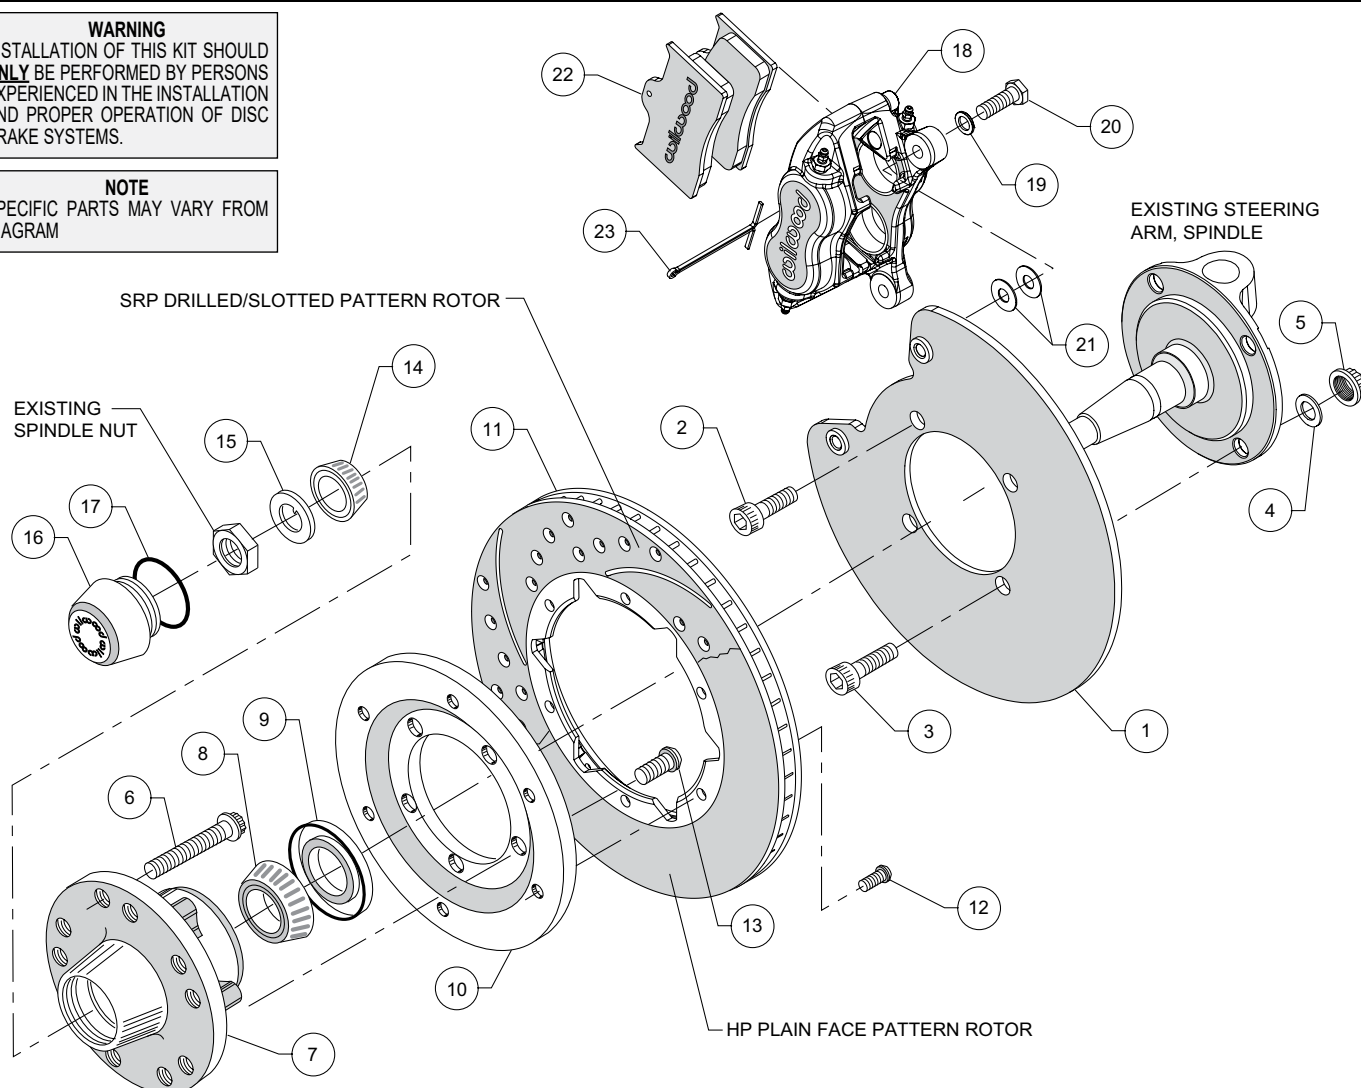
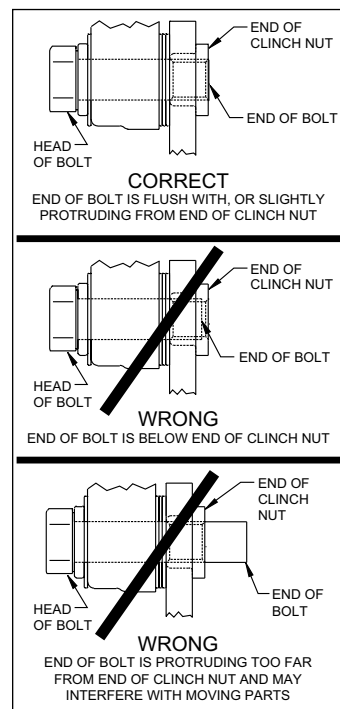

Figure 1. Typical Installation Configuration
Figure 3. Clinch Nut Engagement Diagram
NOTE: Numbers in parenthesis refer to the parts list and Figure 1 on the preceding pages.
CAUTION: All mounting bolts must fully engage clinch nuts. Be sure to check that all bolts are either flush or protruding through flanged side of clinch nut after shimming, Figure 3.
- Orient the caliper mount bracket (1) as shown in Figure 1. Install using bolts (2) threaded into the steering arm and bolts (3), washers (4), and locknuts (5), Figure 1. Ensure that the flanged heads of the clinch nuts in the bracket are facing outboard, Figure 1. Temporarily tighten the mounting bolts. **NOTE:** The bracket must fit squarely against the mounting points on the spindle. Inspect for interference from casting irregularities, machining ridges, burrs, etc. Torque locknuts (5) to 65 ft-lb. Apply red *Loctite*® 271 to the threads of bolts (2) and torque to 80 ft-lb.
- Install wheel studs (6) into the hub (7), Photo 2. Torque to 77 ft-lb. **NOTE:** There are two five lug patterns in the hub (5 x 4.50 and 5 x 4.75). Ensure the correct hub stud pattern is being used to fit the wheel application.
- Pack the large inner bearing cone (8) with high temperature disc brake bearing grease (available from your local auto parts store) and install into the backside of the hub (7), Photo 3.
- Install the grease seal (9) by pressing into the backside of the hub (7), flush with the end of the hub, Photo 3.
- Orient the rotor (11) and the rotor adapter (10) as shown in Figure 1 and Photo 4. Attach the rotor to the adapter using bolts (12). Using an alternating sequence, apply red *Loctite*® 271 to the threads, and torque to 25 ft-lb.
- Mount the adapter/rotor assembly (10/11) to the hub (7) using bolts (13), as shown in Figure 1 and Photo 5. Using an alternating sequence, apply red *Loctite*® 271 to the threads, and torque to 45 ft-lb.
- Pack the small outer bearing cone (14) with high temperature disc brake bearing grease and install into hub (7). Slide the
•**NOTE:** Please reference the caution statement at the beginning of the assembly instructions. Mount the caliper (18) onto the caliper mounting bracket (1) using bolts (20) and washers (19), as shown in Figure 1. Initially place two .035" thick shims (21) on each bolt between the caliper and the bracket, Photo 8. Temporarily tighten the mounting bolts and view the rotor (11) through the top opening of the caliper. The rotor should be centered in the caliper, Photo 9. If not, adjust by adding or subtracting shims between the bracket and the caliper. Always use the same amount of shims on each of the two mounting bolts. **NOTE:** *The end of each bolt must be flush with or slightly protruding from the head of the clinch nut, as shown in Figure 3.* If necessary place spare shims between washer (19) and caliper mounting ear to achieve the proper clinch nut engagement. Once the caliper alignment and clinch nut engagement are correct, remove the bolts one at a time, apply red *Loctite®* 271 to bolt threads, and torque to 40 ft-lb..